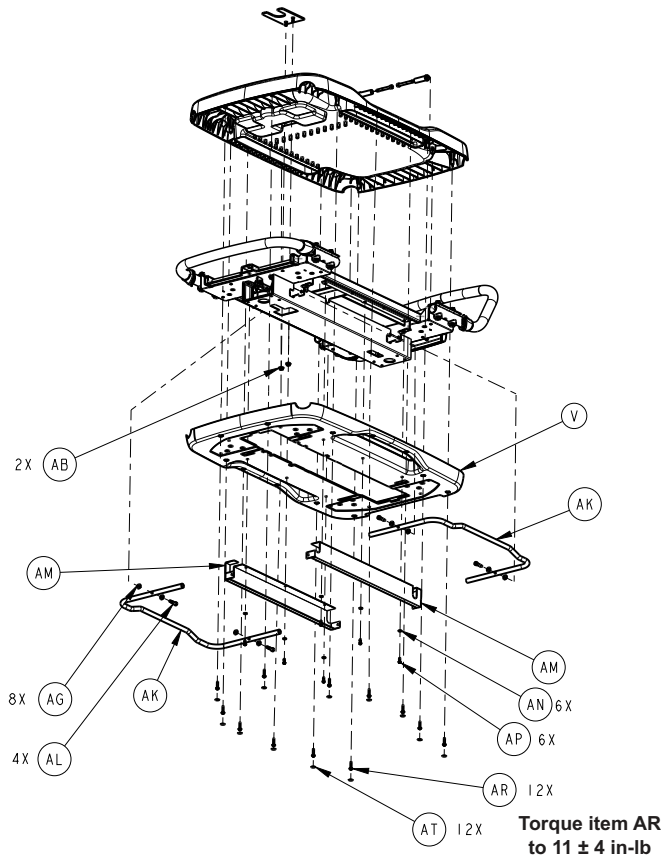

Figure 7 – Release handle
5. Using a T25 Torx driver, remove the screw (R) and spacer (P) that stop the workspace tray. Save the screw and spacer.
7. Using a 5/32" hex wrench, remove the four screws (E) and washers (D) from the cylinder brackets that secure the cylinder to the top cradle bracket. Save the screws and washers.
10. Using a 1/8" hex wrench, remove the four screws (AL) that secure the release handles to the top cradle bracket (Figure 7). Save the handles and screws.